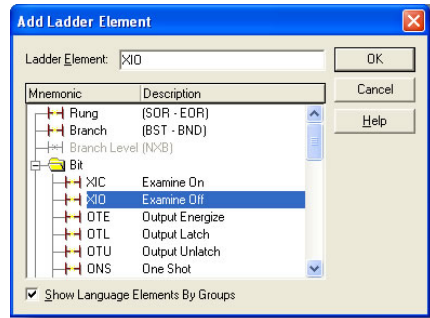

Figure 96: Adding an XIO Element
- c) Select the "XIO" element in the Bit folder. Refer to Figure 96.